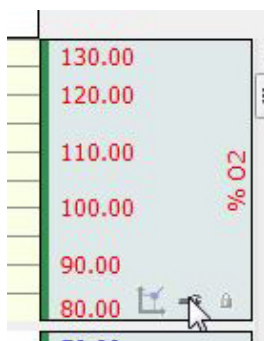
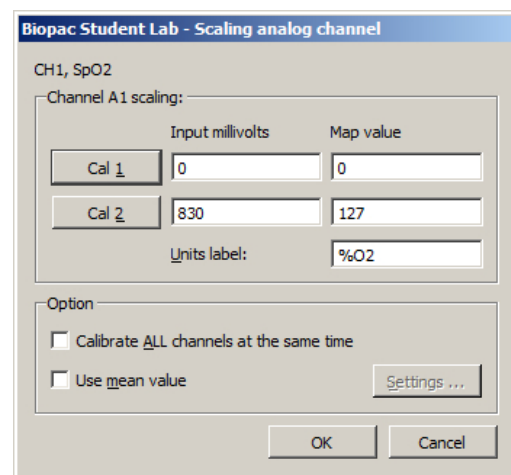

Figure 3
Figure 4
6. Using the arrow selection tool, click the wrench button in the units (% O2) region of **CH 1** (SpO2) as shown in Figure 3 to display the Scaling dialog shown in Figure 4.